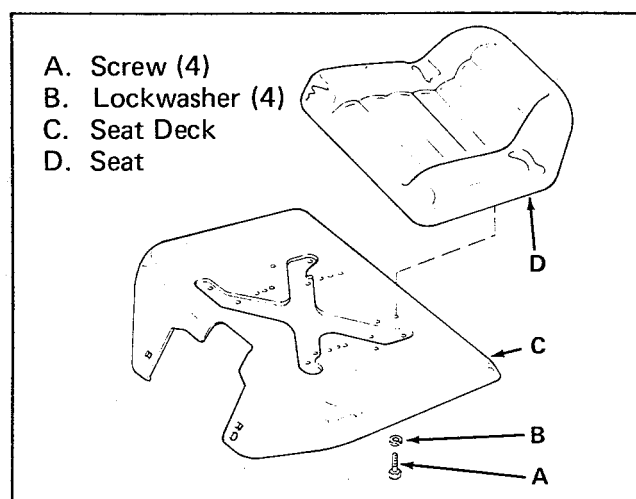

Figure 21. Seat Adjustment
1. Remove the four screws and lockwashers (items A and B, figure 21) that secure the seat to the seat deck.